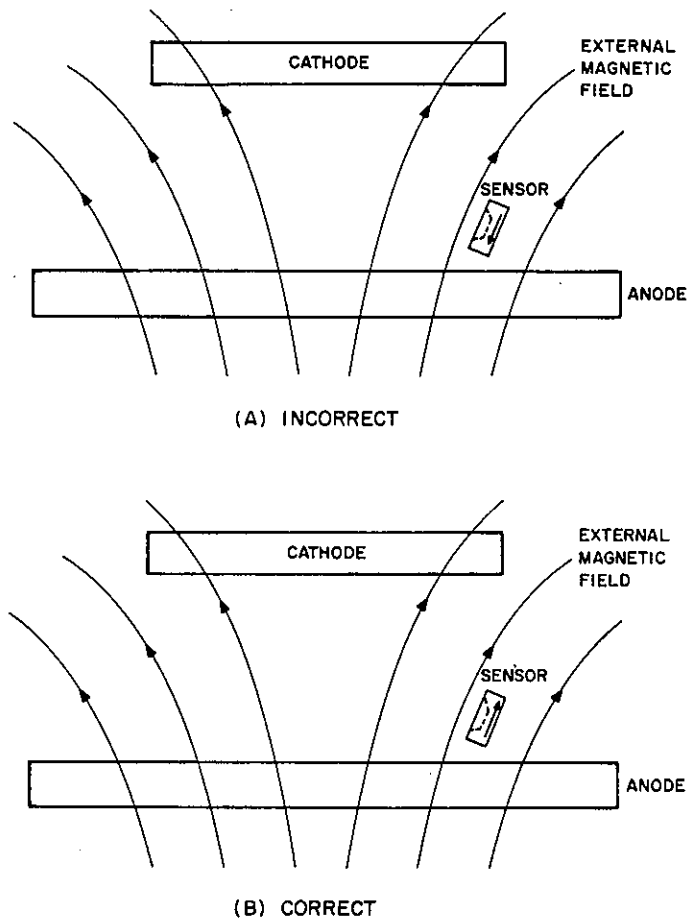

Fig. 3-4 Orientation of Sensor Magnetic Field in a Sputtering System Employing External Magnetic Field
3. The sensor contains a permanent magnet (Fig.3-3 ). If the sensor is to be installed in a sputtering system which employs external magnetic fields, make sure the magnetic field direction of the sensor is not opposing the external magnetic field (Fig. 3-4).